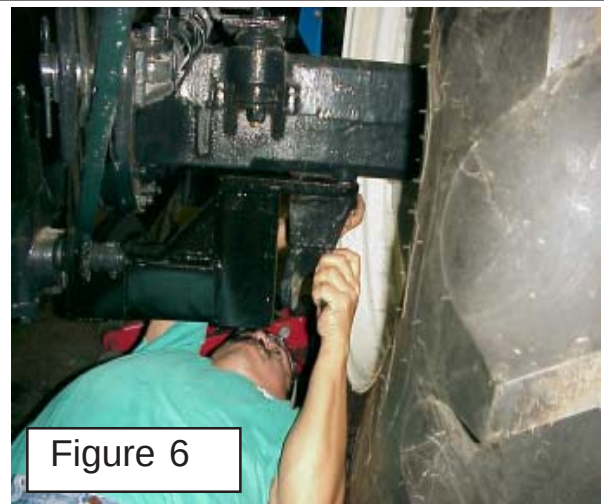

Figure 6
7. The Engine Crankshaft Pulley. The engine crankshaft pulley WILL NOT need to be removed, the six pulley mounting bolts WILL NOT need to be loosened or removed (See Figure 6)
5. Raise the frame rail up under the tractor until the rear mounting plate is under the rear axle (See Figure 6). NOTE: if mounting a Rops Tractor there will also be a lower ROPS Strap built onto the rear frame mount pad.
6. Re-Install 3-Point Stabilizer Bracket The three point stabilizer bracket will be reinstalled under the rear frame at the rear tractor axle. (See Figure 6). Install three frame mounting bolts P/N 02975958 (M18-P1.5 X 70mm PL GR10.9), once these three bolts (through 3 point stabilizer and frame rail) have been installed. Only snug these bolts for now do not tighten them (See Figure 6).